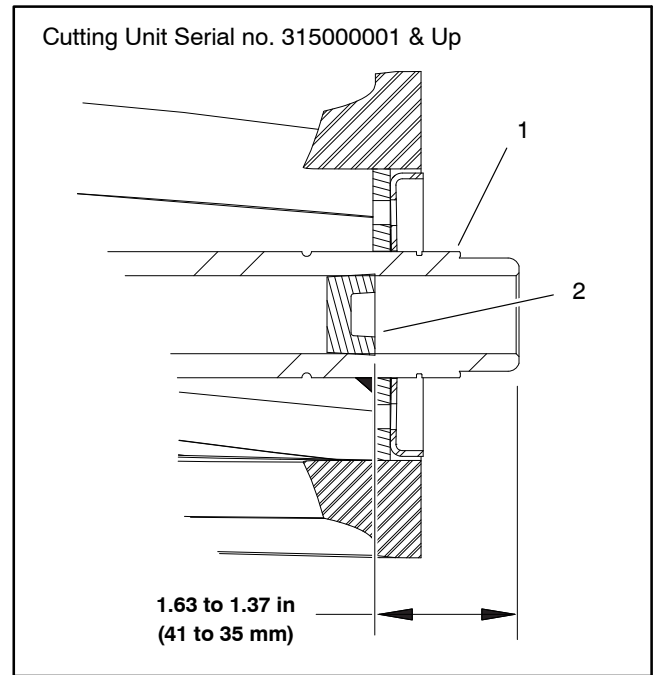

Figure 40
1. If removed, install new reel shaft plugs into cutting reel shaft. For cutting unit serial no. prior to 315000001, make sure plastic plug is pressed flush into end of threaded insert. For cutting unit serial no. 315000001 & Up, make sure plastic plug is pressed unto reel shaft **1.63 to 1.37 in. (41 to 35 mm)** below the end of the shaft (Fig. 40)